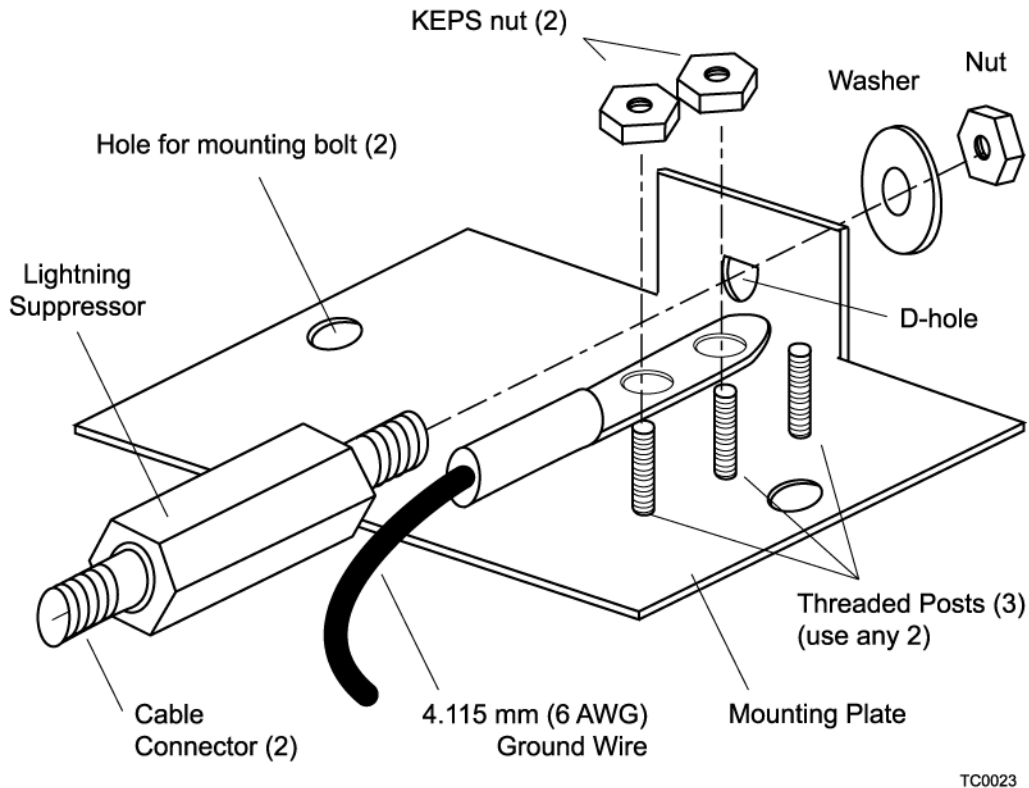

Figure C-6. *Assembling the Lightning Suppressor*
9. Assemble the lightning suppressor as shown in Figure C-6.